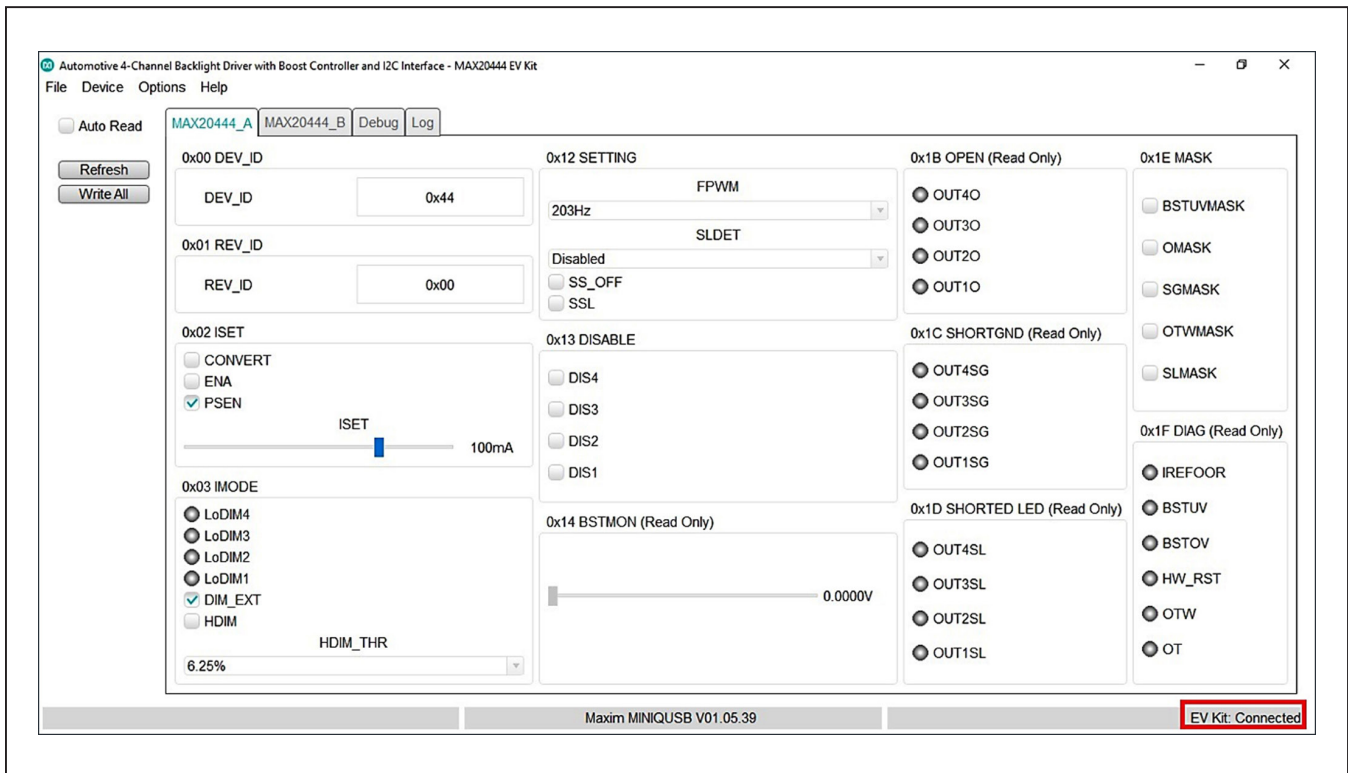

Figure 1. MAX20444B Evaluation Kit Software (GUI)
- 19) Verify that the status bar in the bottom-right corner of the GUI displays EV Kit: Connected, as shown in Figure 1.